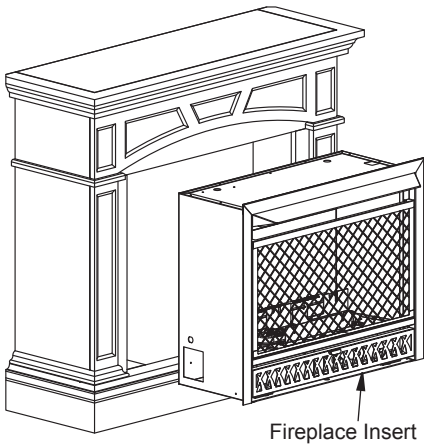

Figure 33
6. After assembling the mantel, lift to the upright position. Carefully, push the fireplace insert from the front of the mantel as shown in Figure 33.